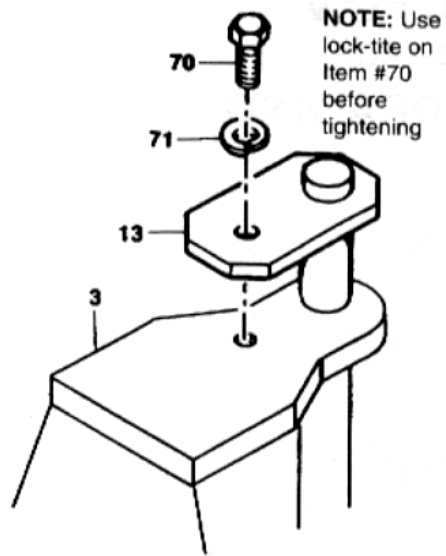

Figure 4
- Center hinge pin retaining bolt for tightness. (Item 70, Fig. 4)